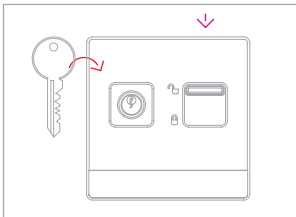

Fig. 1
- Fig. 1: Insert key, push the lever down